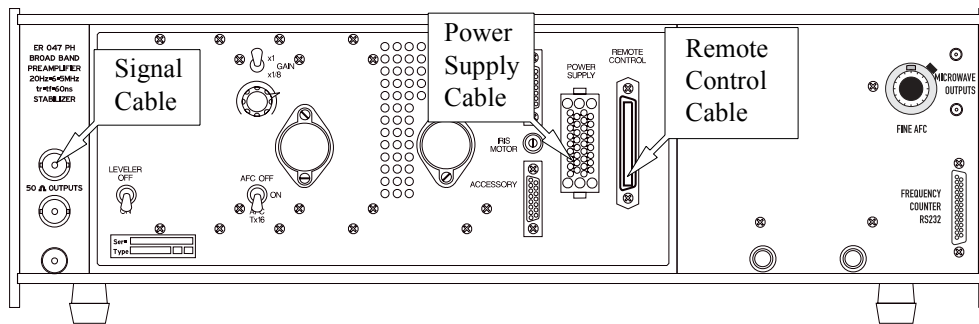

Figure 11-2 The power supply, remote control, and signal cable connectors.
4. **Disconnect the power supply cable.** There are two clips used to secure the connection of the power supply cable to the bridge. Press both clips with your thumb and index finger and pull out the power supply cable. (See Figure 11-2.)
5. **Disconnect the remote control cable.** There are two clips, one on the top and one on the bottom of the remote control cable connector. Flip both clips out against the bridge back panel. Then remove the remote control cable. (See Figure 11-2.)